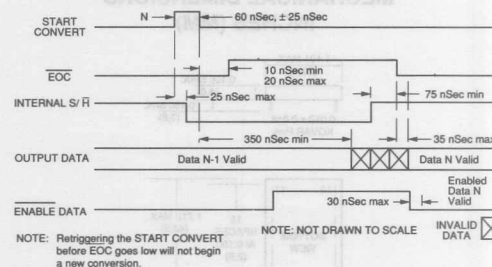

Figure 2. ADS-132 Timing Diagram
7. Figure 2 shows the relationship between the various input signals. The timing shown applies over the operating temperature range and over the operating power supply range. These times are guaranteed by design.